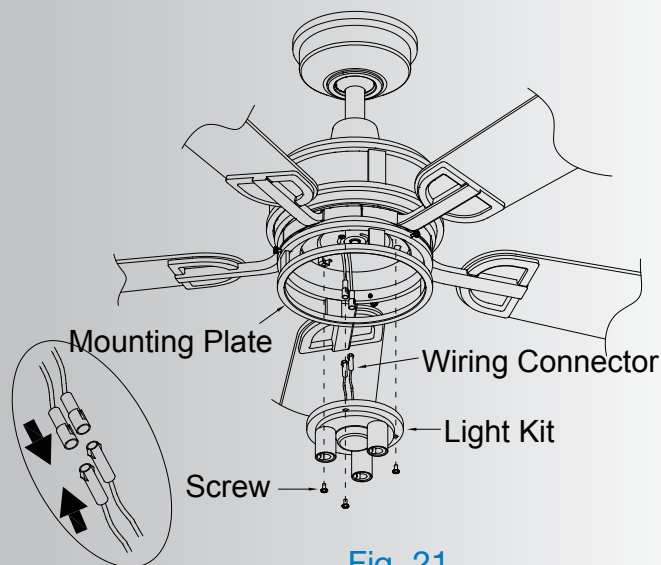

Fig. 21
Step1. Remove the 3 preinstalled screws from the mounting plate as shown. Save them for reuse on step 3. (Fig. 21)
Step 2. Hold the light kit close to the mounting plate and connect the WHITE wires from the mounting plate and fan by pushing the connectors together. Follow the same procedure with the BLACK wires. (Fig. 21)
Step 3. Tuck the connections neatly into the light kit. Align the screw holes on the light kit and mounting plate. Securely tighten all 3 screws removed previously. (Fig. 21)